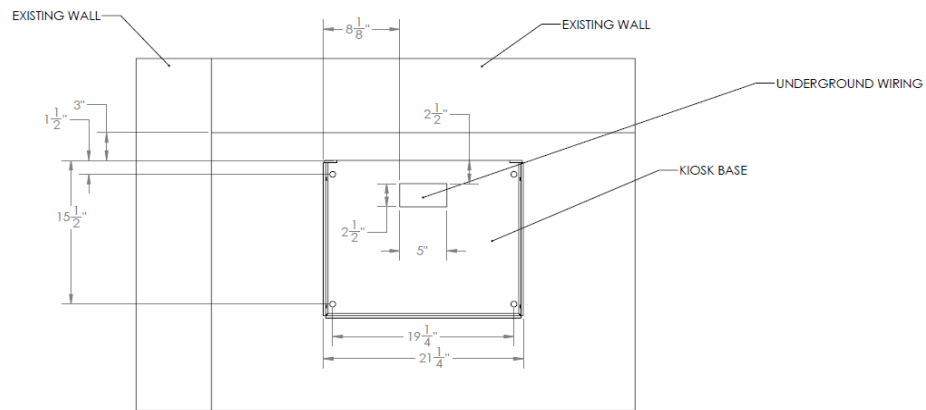
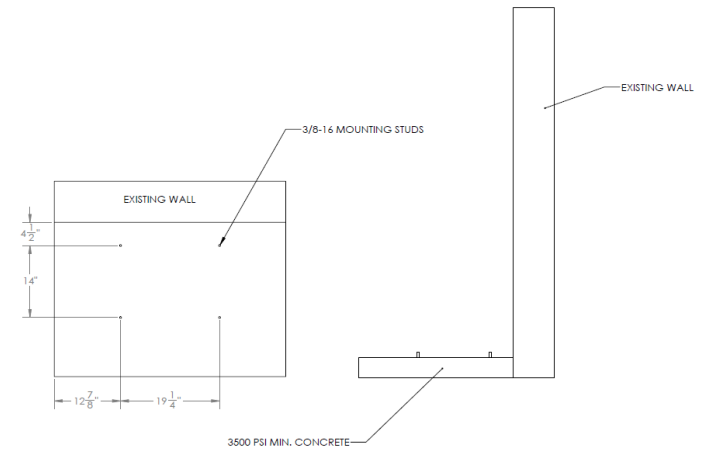

Figure 1: Model 723 Pedestal Base Layout
Figure 2: Model 723 Concrete Pad Specifications
The INSOMNIAC 723 must be mounted on a concrete pad. Four (4) bolts will need to be anchored into the pad with which the pedestal base is to be attached. Holes in the pedestal base allow for 3/8" bolts to be used (please follow the bolt manufacturer's recommendations when anchoring bolts in concrete). Please see Figure 1: Model 723 Pedestal Base Layout (page 11) for pedestal base layout, and Figure 2: Model 723 Concrete Pad Specifications (page 12) for concrete pad specifications.